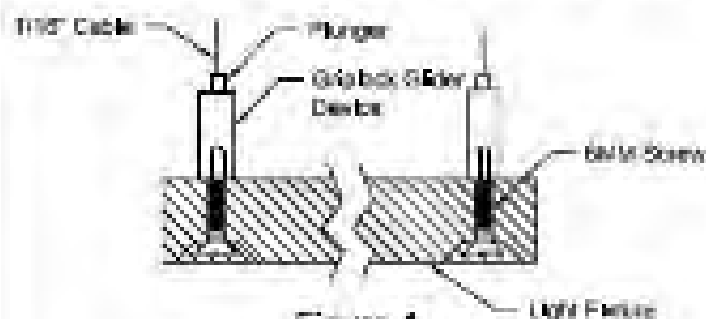

Figure 4
1. Insert end of Cable into Griplock Slider Device installed on Fixture. See Fig. 4.